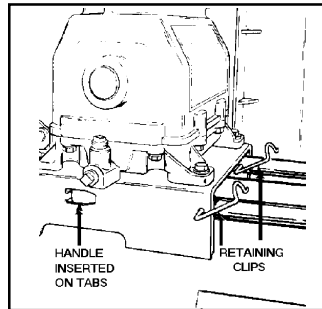

Fig. 5
3. Guide the straight end of each retaining clip through the saddle hole and both handle holes (Fig. 5).